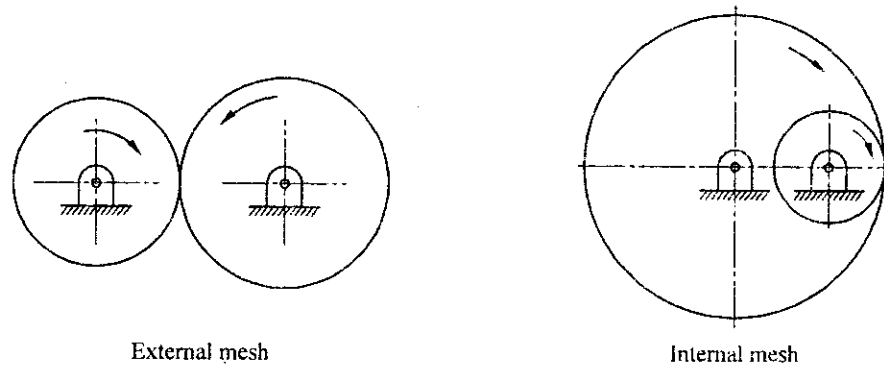

Fig. 7.1
**Direction of rotation :** The direction of gear's rotation is conventionally specified as clockwise or counter clockwise. Clockwise rotation will be regarded as positive and anti-clockwise rotation as negative. When gears mesh externally they rotate in opposite directions and when gears mesh internally they rotate in the same direction as shown in fig. 7.1.